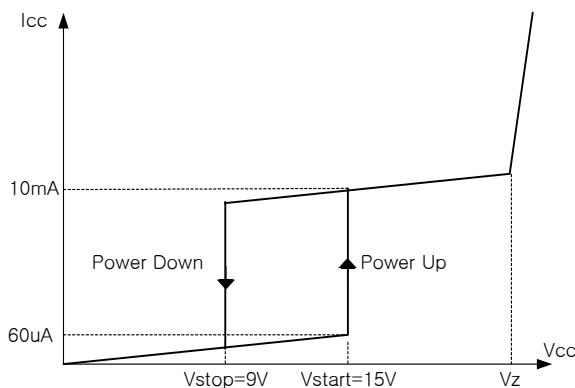

Figure 1. Relation between supply current and voltage
1. Startup : To guarantee stable operation of the control IC, Vcc has under voltage lockout (UVLO) with 6V hysteresis. Figure 1 shows the relation between the supply current (I_{cc}) and the supply voltage (Vcc). Before Vcc reaches 15V, the start-up current is 60 μ A, which is usually provided by the DC link through start-up resistor. When Vcc reaches 15V, the control IC begins operation and the operating current increases to 10mA as shown. Once the control IC starts operation, it continues its normal operation unless Vcc goes below the stop voltage of 9V.